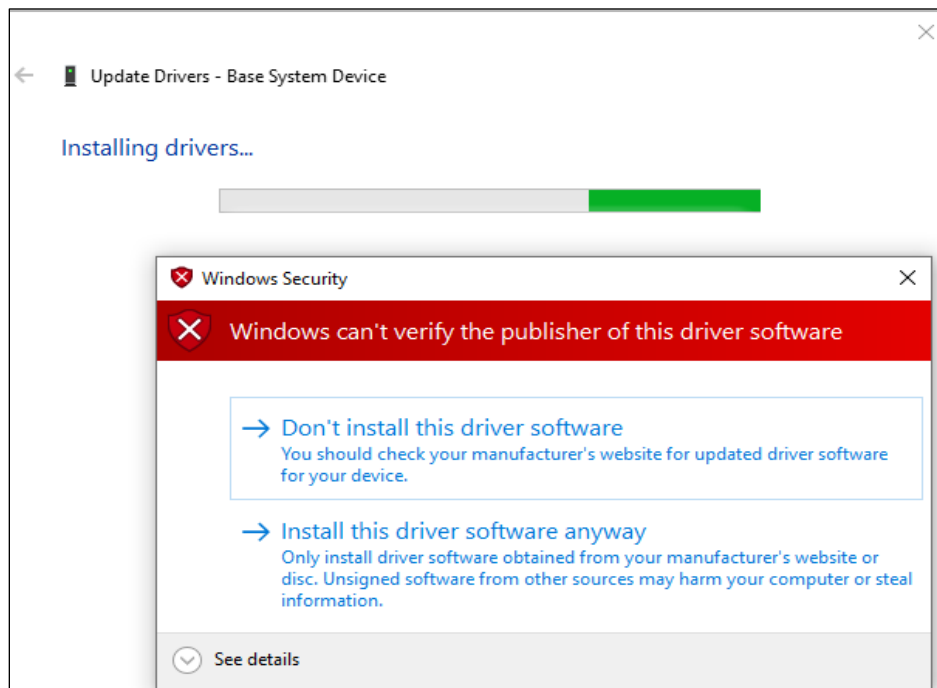

Figure 5.43. Windows Security in Device Manager
7. If a Windows Security prompt is received, select **Install this driver software anyway** as shown in Figure 5.43.